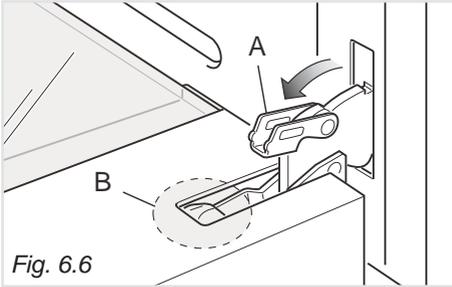
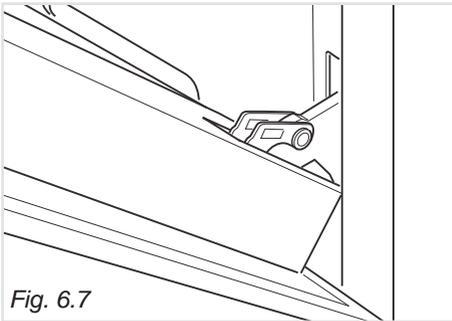

Fig. 6.6
Fig. 6.7
- Open the lever "A" completely on the left and right hinges (fig. 6.6).
- Gently close the door (fig. 6.7) until left and right hinge levers "A" are hooked to part "B" of the door (fig. 6.6).